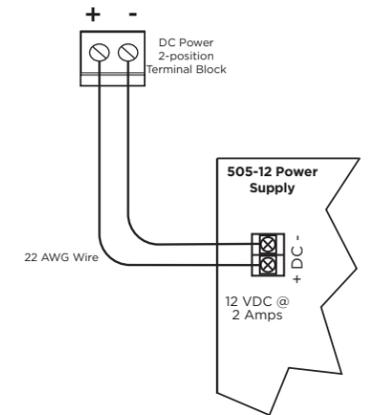

Figure 5: 1100D Series Mounting Holes
1. Using 22 AWG wire, connect the J3 DC Power 2-position Terminal Block to the J6 terminal on the 505-12 power supply PCB. See Figure 5.